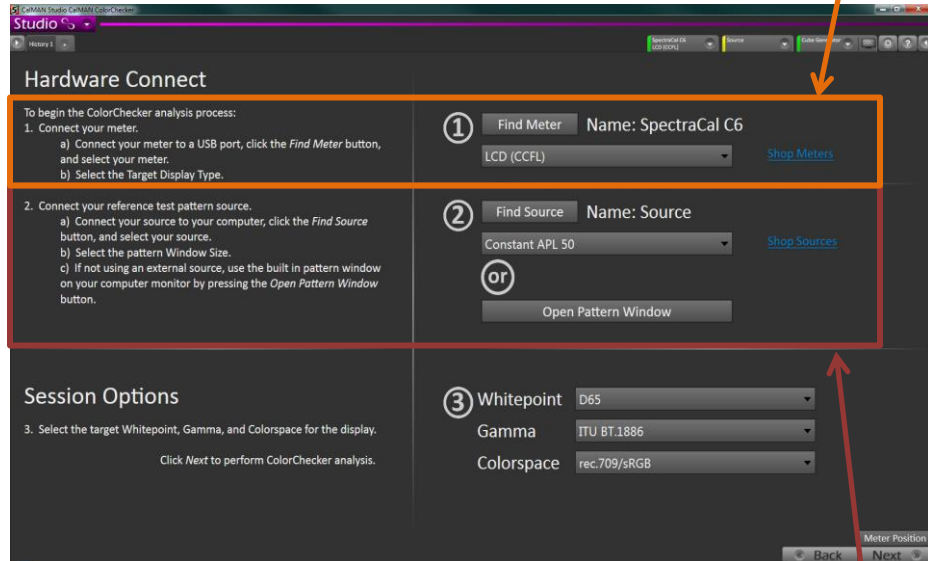

Figure 3. CalMAN Session Setup page in the ColorMatch workflow.
a. On the *Session Setup* page (Figure 3), follow the instructions to connect CalMAN to your color meter.
c. On the *Session Setup* page (Figure 3), follow the instructions to connect CalMAN to your test pattern source.